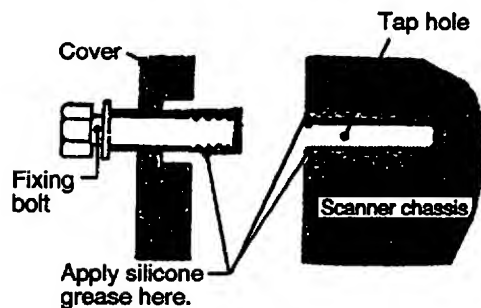

Figure 14 Coating scanner unit cover with silicone grease
- 14) Coat waterproofing gasket, bolts and tapping holes of scanner unit with silicone grease as shown in Figure 14.